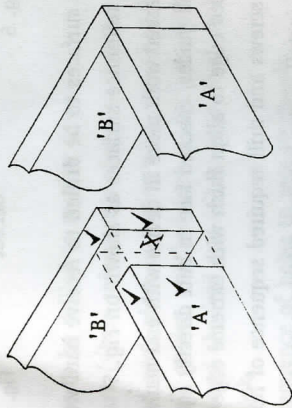

Fig 7.
1. Referring to Fig. 7 - mark X on surfaces to be drilled to receive hard wood dowels and mark flush reference faces with check mark (✓)